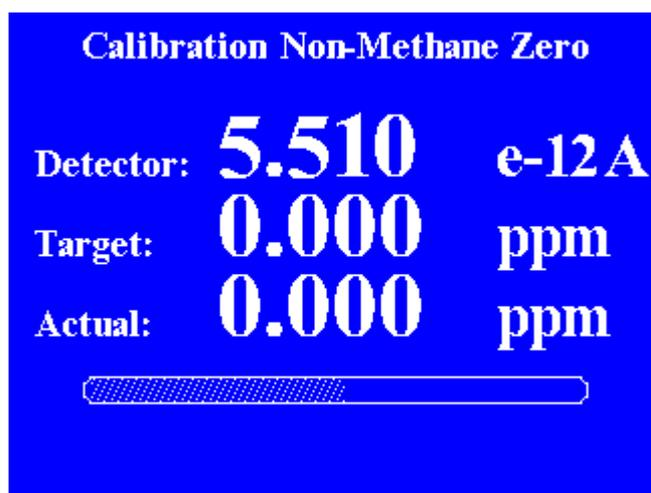

Figure 11. Auto calibration non methane zero screen
4. The Methane Calibration Span screen will remain open for the length of the dwell time. At the end of the dwell time the span point will be saved and the actual concentration value will automatically be adjusted. After the Span point has been saved, the analyzer switches to the Non methane mode and Zero gas is directed to the detector and the Non methane Calibration Zero screen will open as shown in Figure 11.